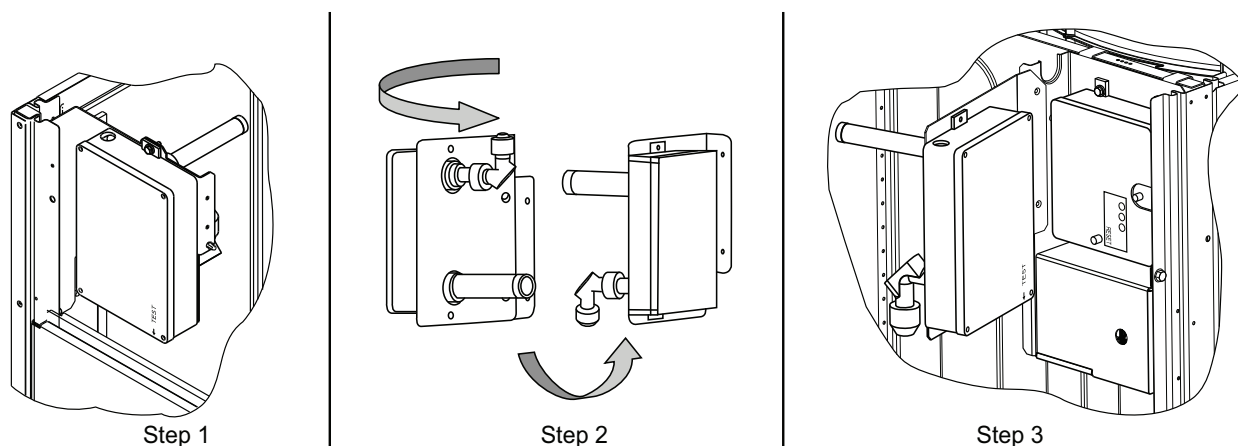

Fig. 72 — Completing Installation of Return Air Smoke Sensor
1. Unscrew the two screws holding the Return Air Smoke Detector assembly. See Fig. 72, Step 1. Save the screws.
2. Turn the assembly 90 degrees and then rotate end to end. Make sure that the elbow fitting is pointing down. See Fig. 72, Step 2.
3. Screw the sensor and detector plate into its operating position using screws from Step 1. See Fig. 72, Step 3.